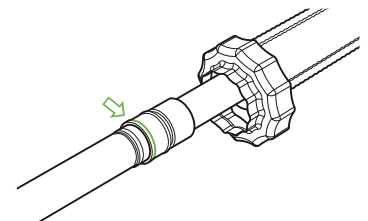

Fig. B10.2.9
10. Once the compression is completed, check to ensure that there are no gaps between the shoulder of the inner coupler and the outer sleeve (Fig. B10.2.9).